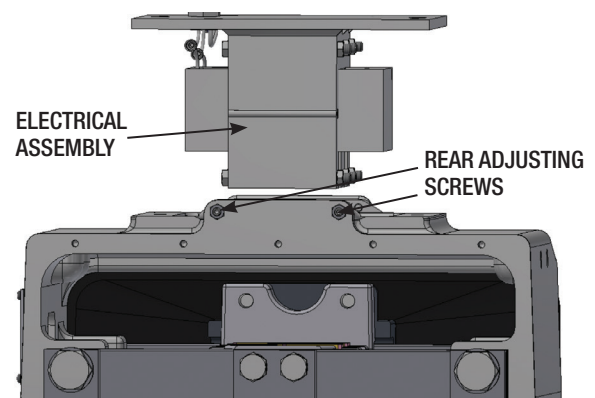

Figure 9 - Electrical Assembly Removal
3. Pry and lift the electrical assembly from the body casing, using a sling or some other safe method of lifting. (**See Figure 9**).